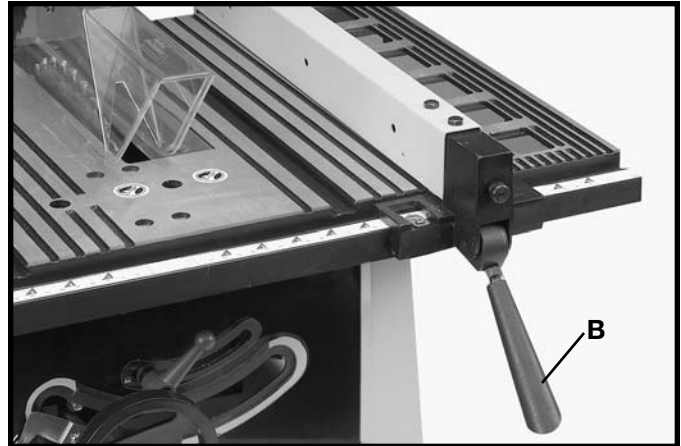

Fig. 18A
3. The rip fence is usually operated on the right hand side of the saw table. Lift lock handle (B) Fig. 18A, and position fence on table as shown. Push downward on handle (B) Fig. 18A, to lock fence in place on saw table.